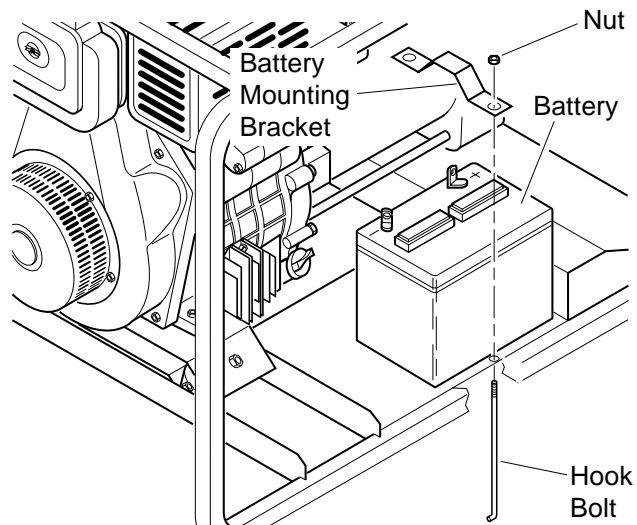

Figure 10 - Battery Hold-Down System
1. Secure battery to generator by battery hold-down system. This system consists of the battery mounting bracket, hook bolts, and nuts (see Figure 10).